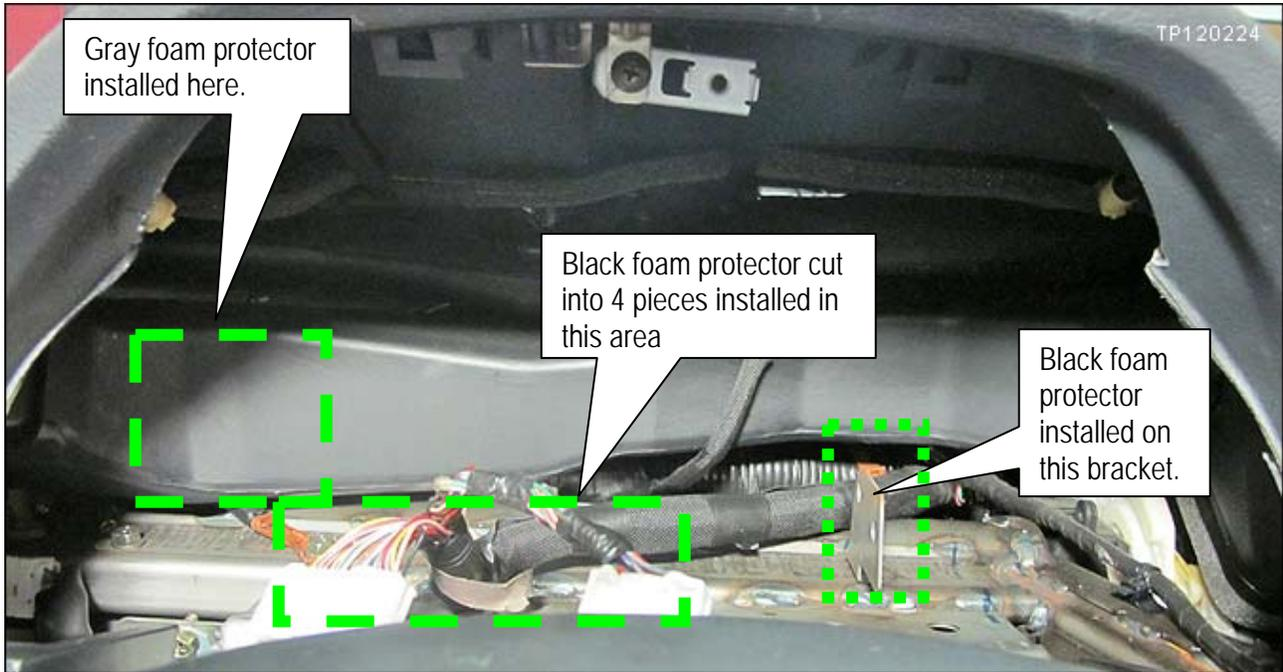

Figure 10
- Use Figure 10 as a location reference for these protectors.